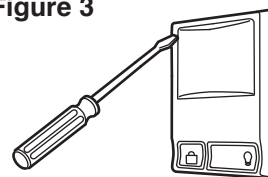

Figure 4
- Insert bottom tabs and snap on cover (Figure 4).